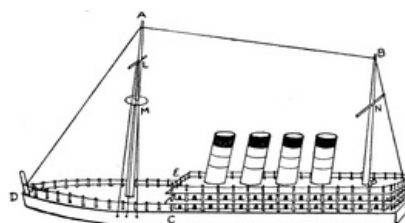

FIG. 284
**A Liner** (Fig. 284). The foundation of the boat is a piece of wood  $10\frac{1}{2}$  inches by  $1\frac{1}{2}$  inches, and about  $\frac{1}{4}$  inch in thickness, or thicker if possible. Shape the bow as in the figure. Round the stern.
Glue the masts into position. Put in a nail at O in the stern, and a piece of cane, D, at the bow. Hammer in three nails in side D C and three on the other side for rigging. Insert the strips of cane through the holes in the cardboard; put a little glue into the holes in the wooden deck, and tap the cane in very gently; put the smaller pieces of cane into the holes round the bow. Tie cotton round the pieces of cane as in Fig. 284; tie cotton to masts, etc.